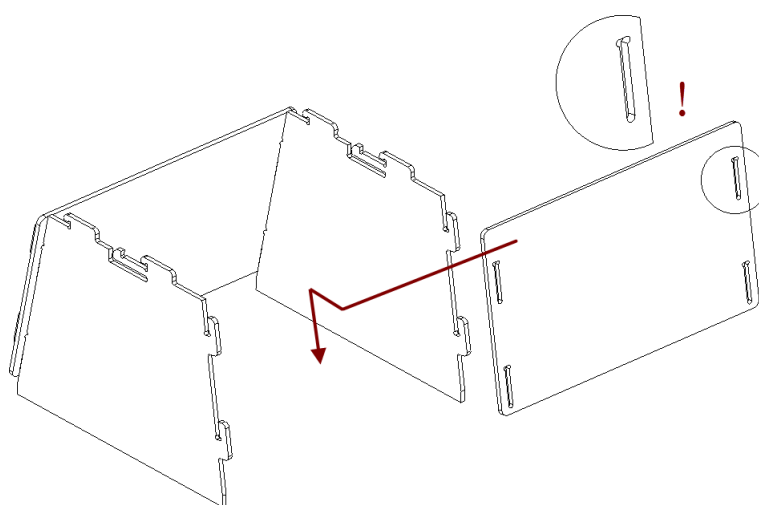

Figure 164: Assembling the back wall.
2. Install the back wall in the same way (see Figure 164).